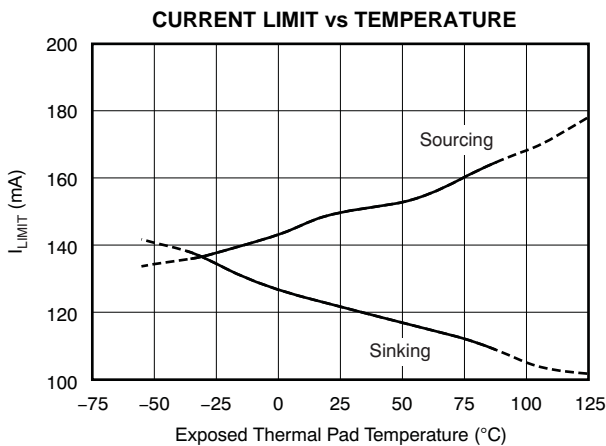

Figure 24.
(10) Measured using low-frequency (<10Hz)  $\pm 49V$  square wave. See typical characteristic curve, *Current Limit vs Temperature* (Figure 24).